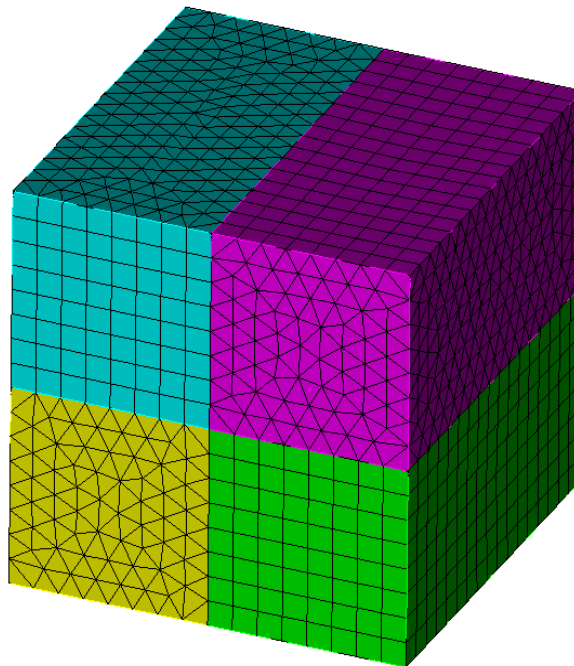

Fig 3.4 - Finite element mesh
- Finite element mesh is shown in the figure 3.4.